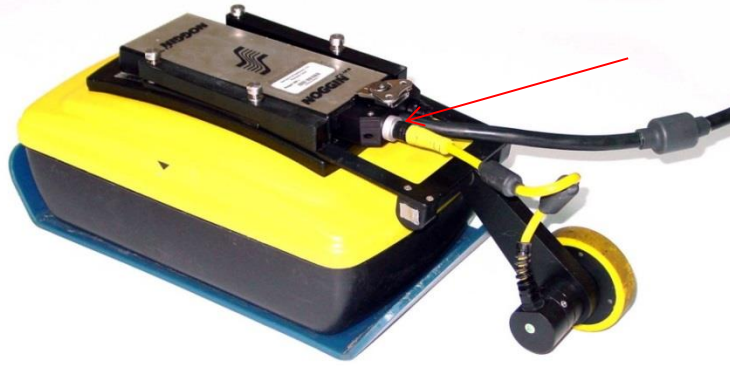

Figure 2-59: Connecting yellow odometer cable to main cable receptacle
3. Connect the yellow odometer cable to the round Noggin receptacle connector (Figure 2-59).